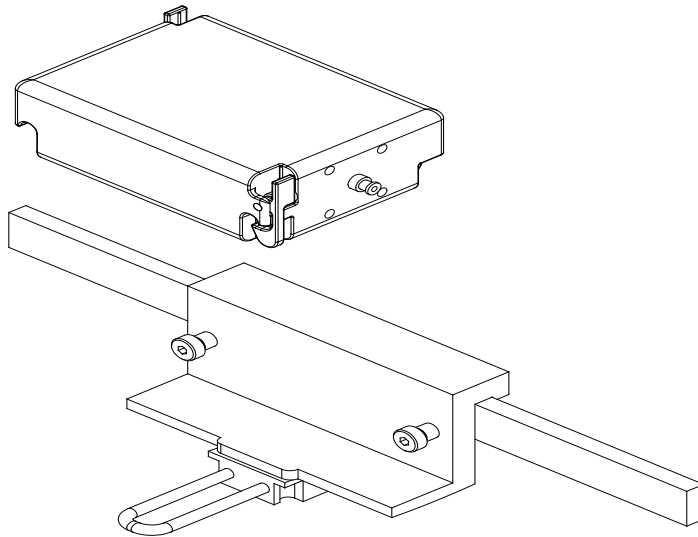

Figure 3. Motor Assembly mounting hardware installation
- Attach the Motor Assembly and mounting hardware to the patient table rail as shown in **Figure 3**.